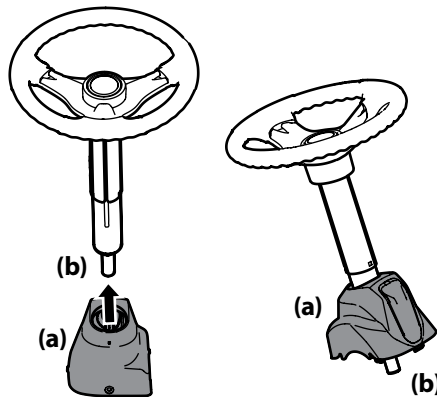

Figure 2-1
1. Slide the pedestal cap (a) onto the steering shaft (b) so that when the steering shaft (b) is installed on the rider, the pedestal cap (a) will be upright as shown in Figure 2-1.